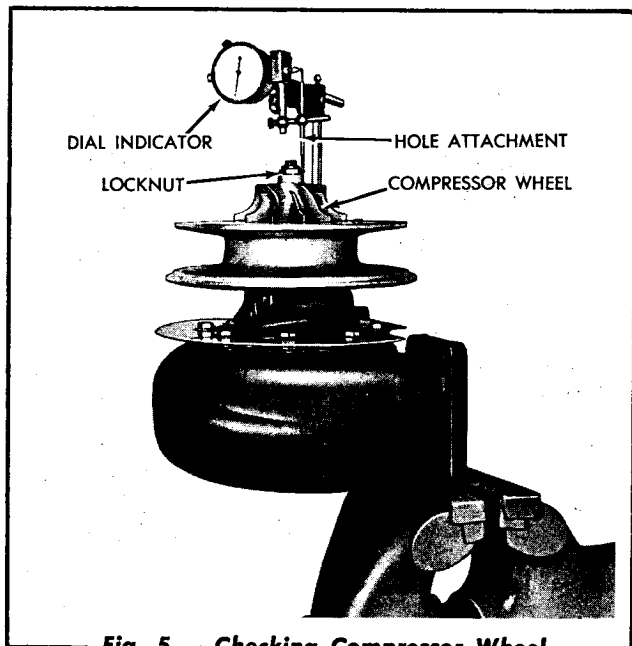

Fig. 5 — Checking Compressor Wheel Radial Movement
- (1) Clamp unit in vise by the turbine housing flange with the compressor wheel to the top (Fig. 5).
- (2) Check compressor wheel radial movement using the same procedure as outlined in item "d" above covering the checking of the turbine wheel radial movement.
- (3) If movement exceeds .023" the cause and correction is the same as for the turbine wheel.